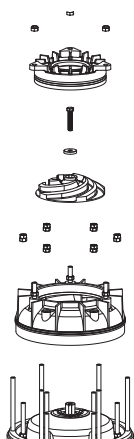

Figure 37: Mounting of impeller, diffuser and wear ring
9.8 Impeller, diffuser & wear ring (Figure 37, 38)